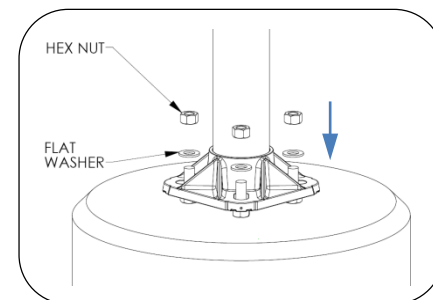

Fig. 4 – Install pole
2. Install washer and hex nut as shown in Fig. 4.